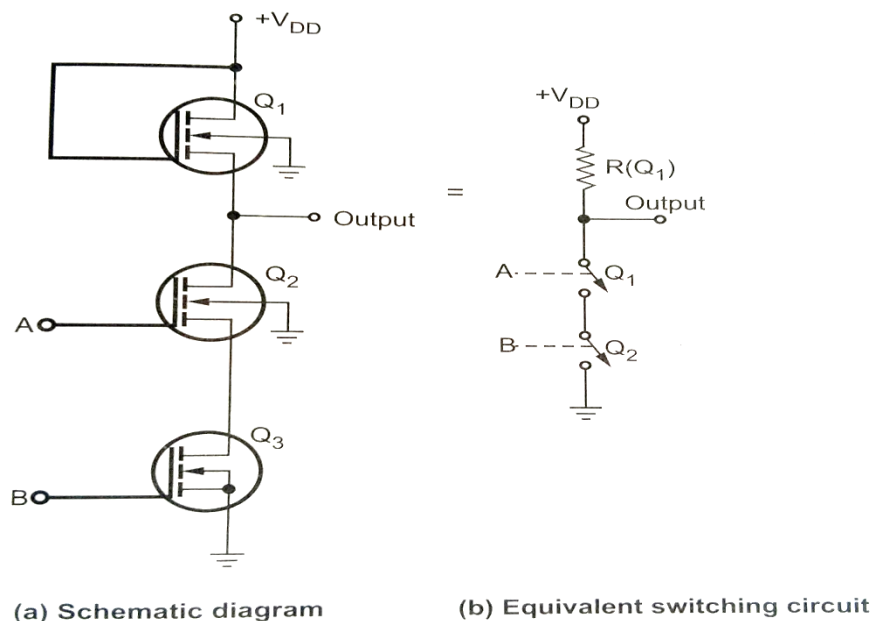

Figure 1.23: 2-input NMOS NAND gate
- Figure 1.23 shows 2-input NMOS NAND gate. Q1 acts as a load resistor and Q2 and Q3 are the switching MOSFETs controlled by the inputs A and B.